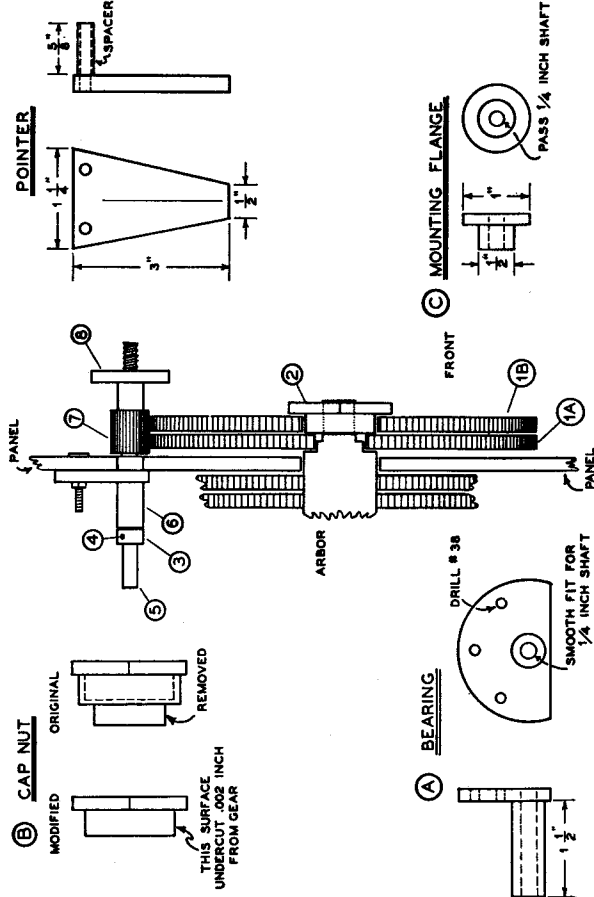

Fig. 3. Additional parts and mounting arrangement for installing a directly calibrated bandspread dial on the BC-459A.
5) Drill out the $\frac{3}{8}$ " hole in *step 4*. Take the bearing shown as *Part A*, *Fig. 3*, and position it at the back of the front panel in line with the $\frac{9}{16}$ " hole and with the cutoff flange section at the bottom. Scribe the three holes necessary to mount it to the panel. Drill out with a No. 38 drill. Mount the bearing with binding head 3-48 screws.
7) Take the original cap nut used for securing the old frequency dial to the arbor and set it up in a lathe and undercut as shown in *Part B, Fig. 3*. Any local machine shop will do this for very little cost.
10) Take a 1/4" shaft about 2 1/2" long and thread one end for a distance of about 1/2". Use the most convenient thread for which you have nuts. This shaft should rotate smoothly in the bearing *Part A, Fig. 3*. It is retained on one end by a collar and pin, or set screw. Sometimes a shaft can be secured with the center pre-drilled and tapped. Such an arrangement is shown in *Fig. 7*. The small gear, part number 7 in *Fig. 7*, is the 26-tooth 48-pitch gear originally used for adjusting the link coupling, removed in *step 3*.
11) Make the small flange for spacing the bandspeed dial. It is shown as *Part C, Fig. 3*. There are three possible means of attaching the bandspeed dial to the shaft. Two are already described in *step 10*, a third is to drill three small holes in the flange of *Part C, Fig. 3*, and bolt the dial directly to the flange section.
12) Closely examine the cut-away assembly drawing in *Fig. 3*. Assemble the gears and shafts for the dial as shown. Note particularly, that gear *1A* is held tight against the dial arbor by the cap nut. Gear *1B* has been reamed sufficiently to float between the cap nut and gear *1A*. Don't forget to put the spring back between the gears *1A* and *1B* in the assembling process. The fiber washer under the original antenna coupling knob should be inserted on the shaft between the small gear, *Part 7*, and the new bearing, *Part A*. Mesh the two gears with sufficient tension to eliminate any back lash. Do not bottom the two gears as this would cause irregular dial motion.